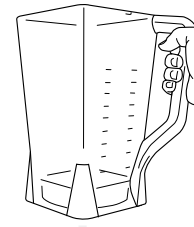

Fig. 1
- 3 Lower the pitcher onto the motor base (**Fig. 1**).